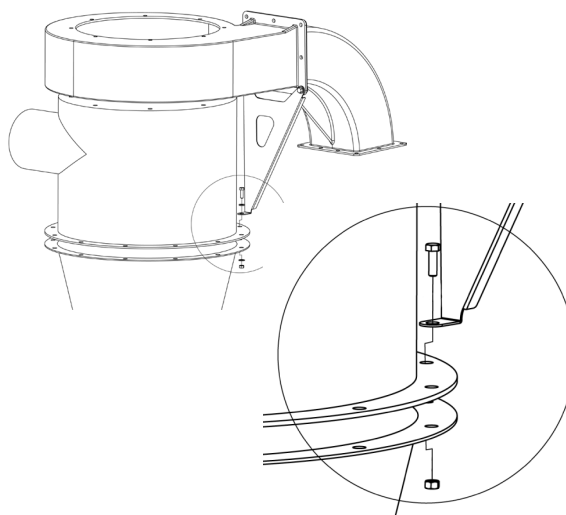

FIG. 11
- 11** Install other end of the Support Brace (L) to the flange of the Barrel (C) using the hardware installed in Step 5 [FIG. 11].